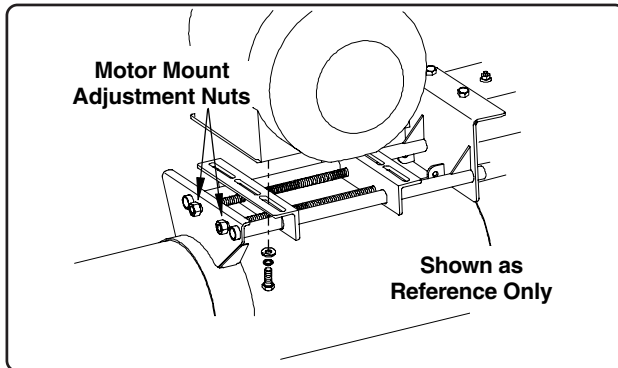

Fig. 10
1. Note the two 3/4" nuts securing the threaded rods to the motor mount plate (See Fig. 10). Adjust these nuts to obtain proper belt tension. Make sure to adjust the nuts equally to keep the motor and drive sheaves properly aligned. **Do Not overtighten.**